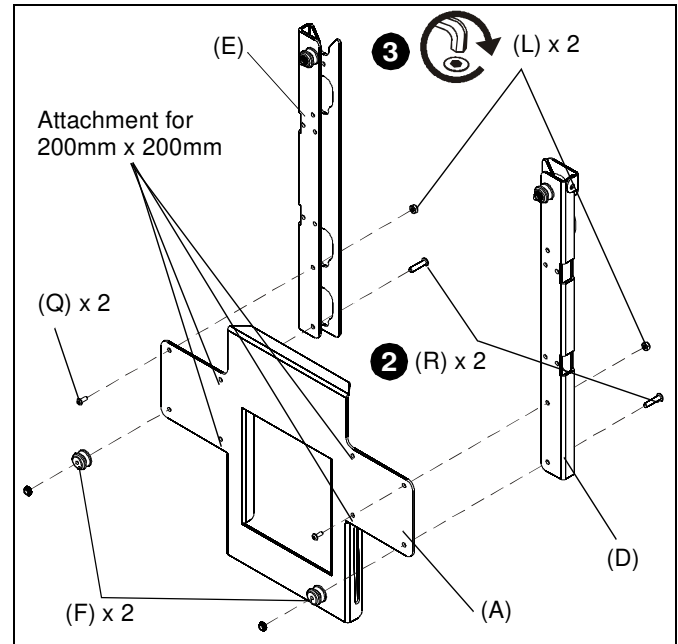

Figure 2
NOTE: The PACCS1 is designed to accommodate both 200mm x 200mm and 14" x 14" Q-latch mounting systems. If a 200mm x 200mm pattern is required, use the inner mounting holes on the shelf bracket (A) when installing the uprights (D and E). (See Figure 2)
2. Assemble two lower mounting buttons (F) to uprights (D and E) and shelf bracket (A) using two 10-24 x 7/8" button head cap screws (R) and two 10-24 lock nuts (L).
3. Complete attachment of uprights (D and E) to shelf bracket (A) using two 10-24 x 1/2" button head cap screws (Q) and two 10-24 lock nuts (L). (See Figure 2)